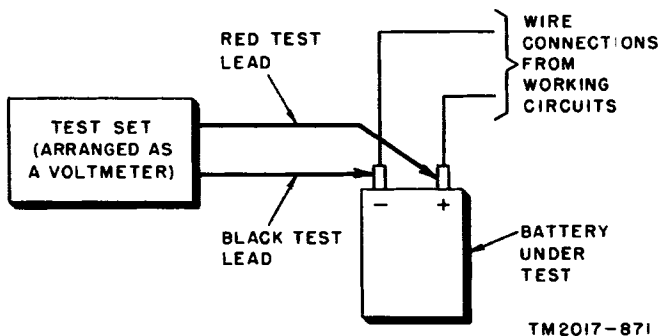

Figure 26. Simplified test setup for battery voltage measurements.
*b.* Connect the red test lead to the + (positive) terminal of the battery (fig. 26).